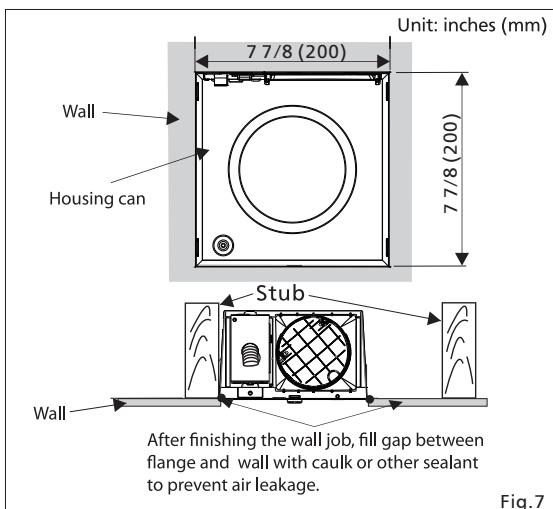

Fig.7
- Finish the wall work. Ceiling hole should be aligned with the inside edge of the flange. (Fig. 7)